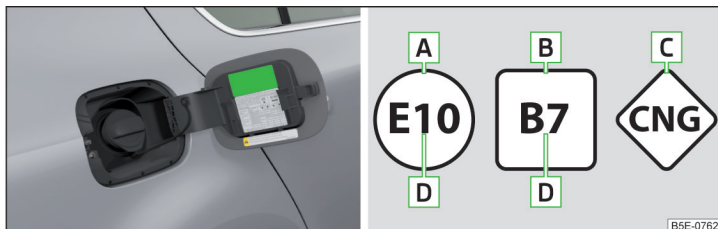

Fig. 309 Label with prescribed fuel / graphic designation of fuel types
The correct fuel for your vehicle is specified on the inside of the fuel filler flap » Fig. 309.
**Graphic name of the fuel types** » Fig. 309
The correct fuel for the vehicle is specified on the inside of the fuel filler flap » Fig. 309 on page 265.
» Fig. 309 on page 265.